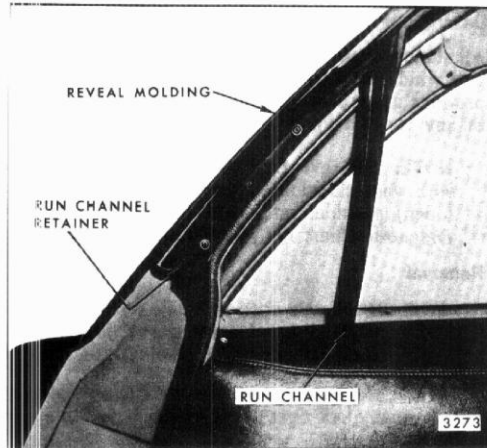

Fig. 9-5-Tail Gate Upper Glass Run Channel Retention
2. Once run channel has been removed, the retainer attaching screws are exposed (See Fig. 9-5). The